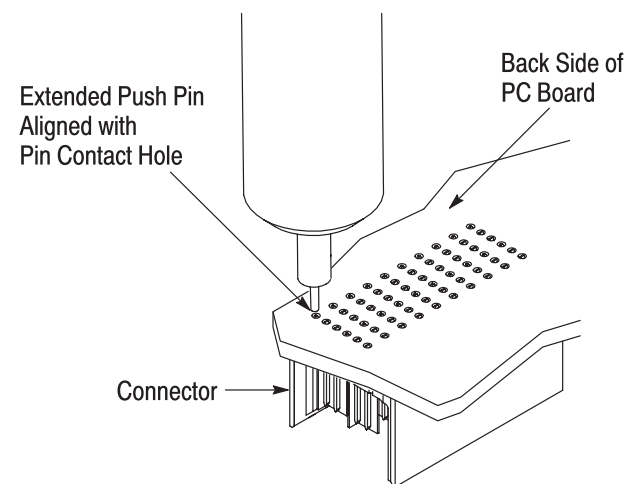

Figure 3
2. With the push pin extended, locate the appropriate pc board hole (in the back side of the pc board) of the pin contact to be extracted, and place the push pin into the hole. Refer to Figure 3.